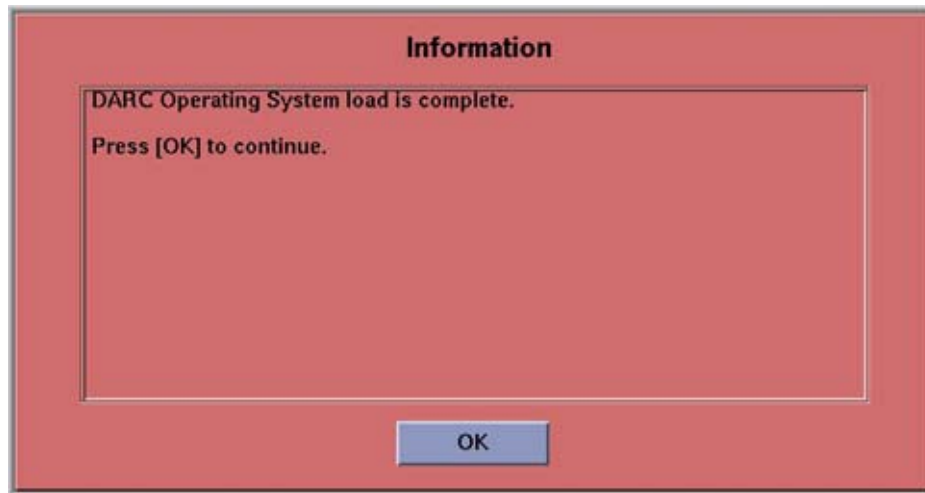

Figure 7-11 DARC OS Load Complete Pop-up Window
- 8.) The DARC OS 'Load Window' should disappear when the load has completed successfully. An information window should appear. See Figure 7-11.